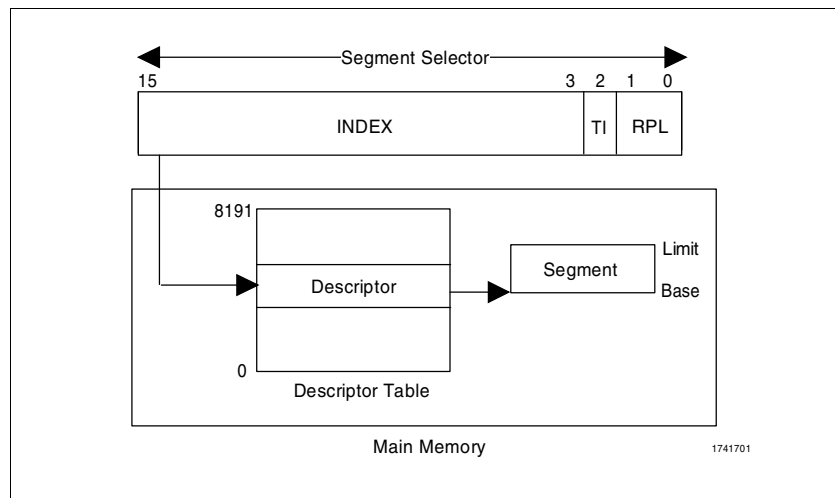

Figure 2-3. Segment Selector in Protected Mode
In protected mode a segment register holds a **Segment Selector** containing a 13-bit index, a Table Indicator (TI) bit, and a two-bit Requested Privilege Level (RPL) field as shown in Figure 2-3.